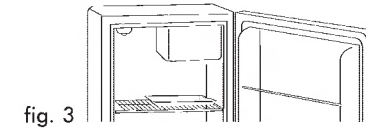

fig. 3
- To defrost freezer, remove food and ice cube tray from the freezer section. Your model requires you to place the drip tray under the freezer section (see Fig. 3). To defrost turn the temperature control dial to the 0 position. Defrosting may take a few hours. To speed up defrost time, keep the door open and place a bowl of warm water in the refrigerator.